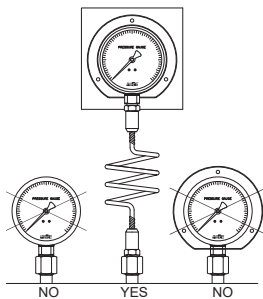

Figure. 6
- 2) Check there are vibration or pursation or pulsation of fluid and install suitable accessories. (Figure. 6)